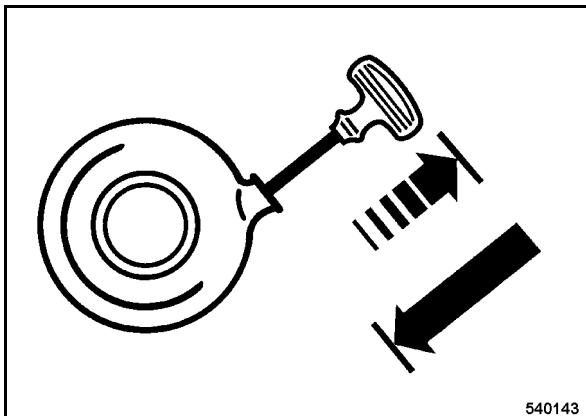

Fig. 14
- Pull the rope by the starter handle (Fig. 14) until resistance can be felt.